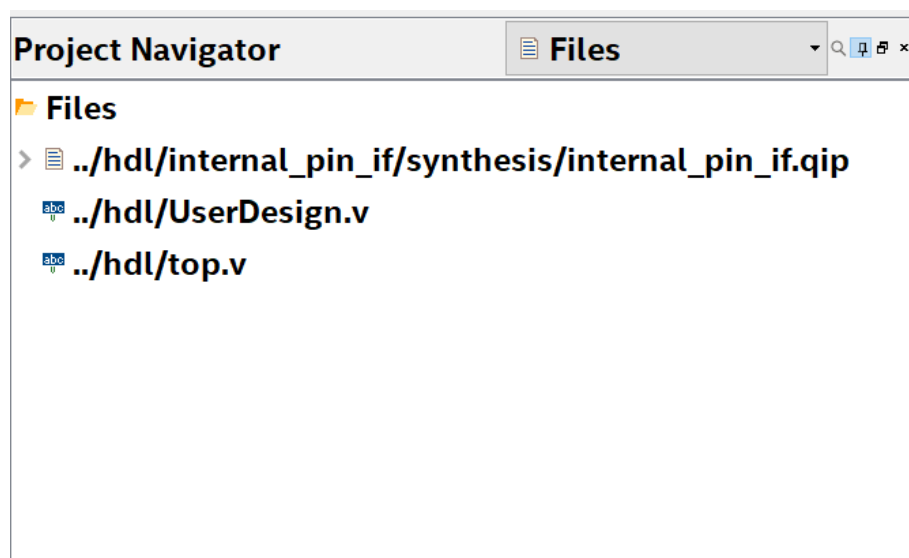

Figure 9: Project Navigator
- ☐ Make sure Project Navigator is showing Files. If not use the pull down to select Files as shown in Figure 9.